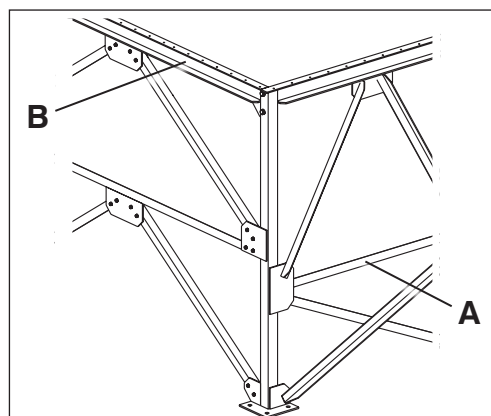

Figure 5 Assemble support structure
- 1 Tack-bolt end assemblies (A) together with top front and rear members (B) (see fig. 5).